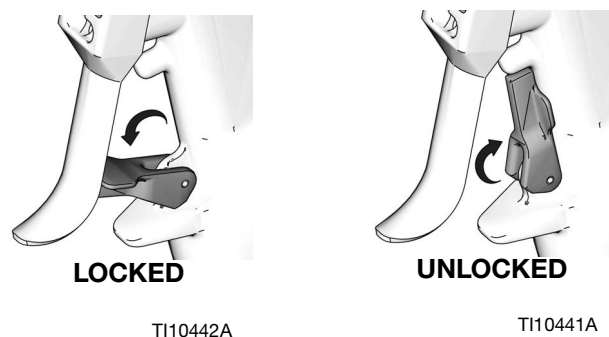

FIG. 4
1. If you are using one of the hand-held versions of the valve, lock the valve trigger safety by turning the latch to a right angle with the gun body. See FIG. 4.